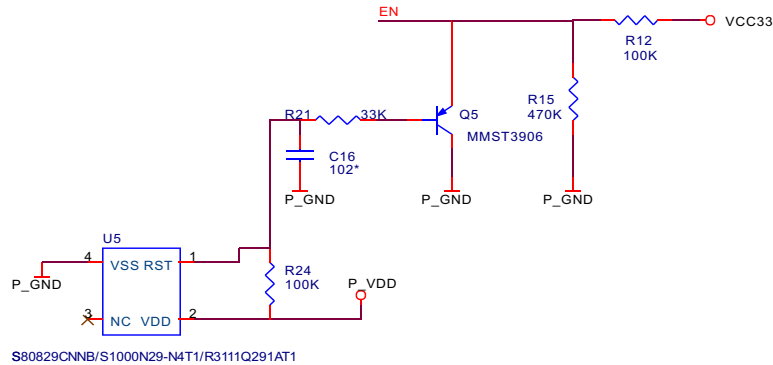

Figure 3.2.7.1 Low voltage detecting circuit schematic diagram
1. Function of low voltage detecting circuit is that when input voltage of the player is detected to be lower than a certain voltage value, the player turns off. Low voltage detecting circuit schematic diagram is shown in the figure 3.2.7.1: